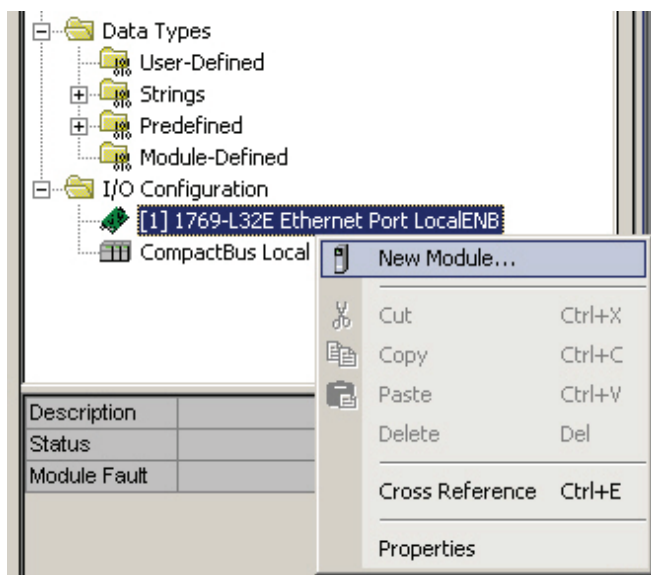

Figure 3.4
- 1.) As shown in figure 3.4 below, the Ethernet port will be listed under the I/O Configuration tree. Right click on the port and then click on "New Module..." in the pop-up menu.